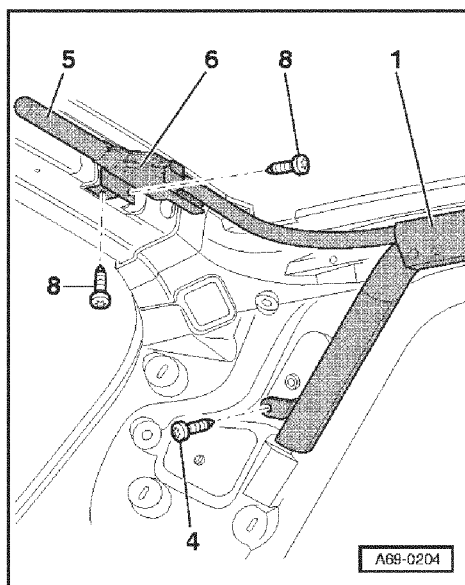

Fig.1 Gas generator to roof frame
- Insert bolts -8- (2x), pressing airbag module -1- with one hand at rear roof grab handle bolting point => Fig. 1